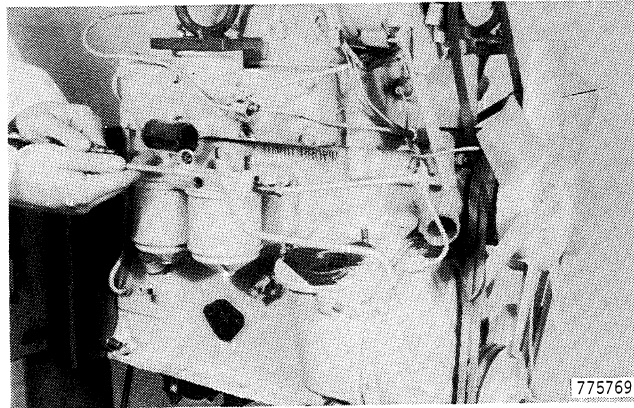

Figure 23
4. Remove the fuel supply tube, Figure 23.